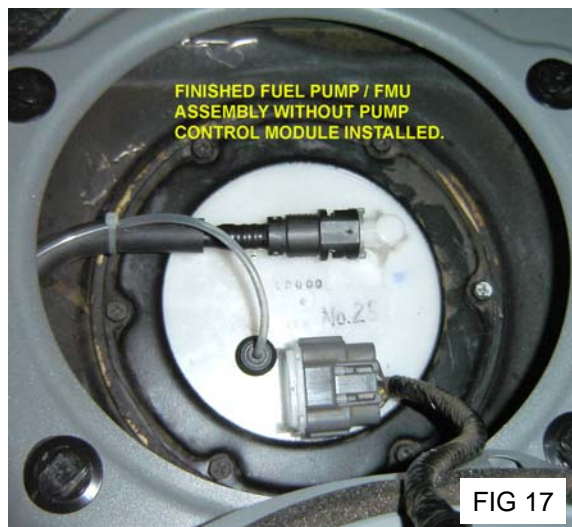

FIG 17
13. **Connect the fuel line and electrical plug. Connect the 1/8" nylon signal tube to the bulkhead fitting** with a large smooth arc that won't kink or rub against other parts. Secure the 1/8" nylon tubing with a final zip tie to the fuel line, just back of the smooth arc into the bulkhead fitting. **FIGURE 17**